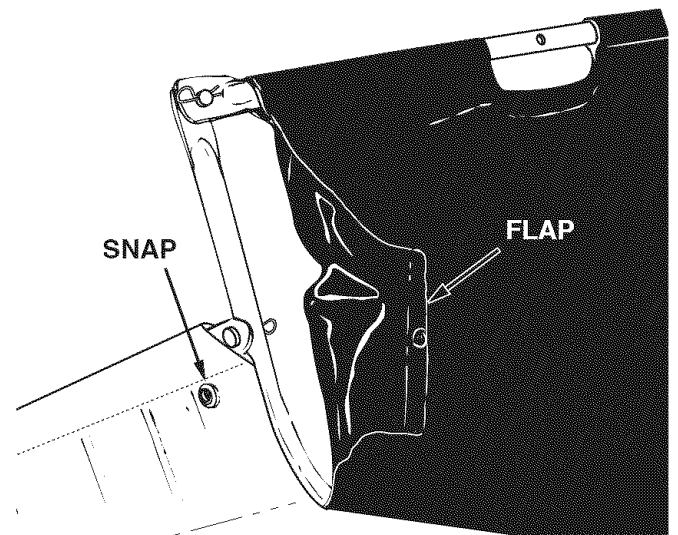

FIGURE 14
- Fold the bag flaps around the lower hopper tubes and attach to the bag bottom using the snaps. See figure 14.